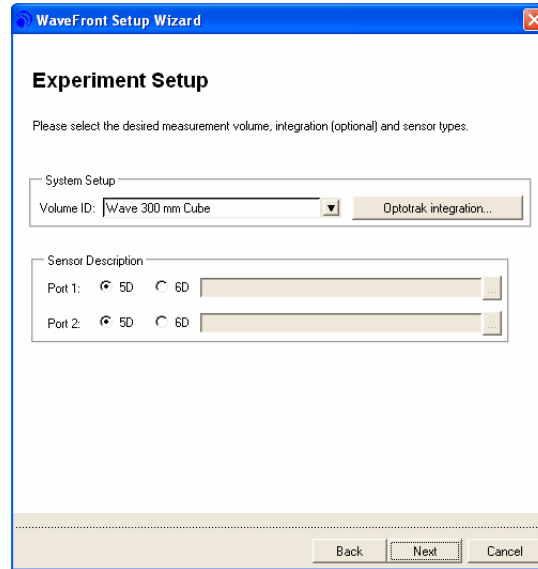

Figure 3-1 Experiment Setup Dialog
11. In the Experiment Setup dialog (Figure 3-1) configure the following parameters: